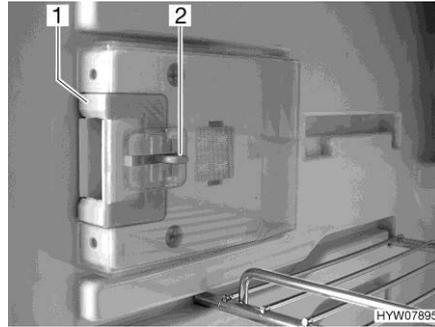
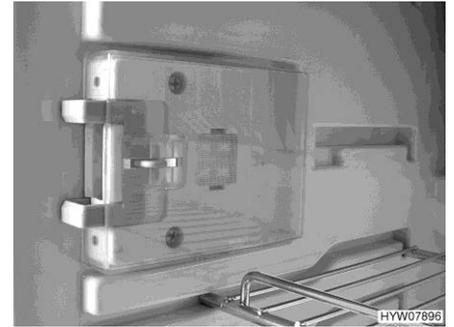

Fig. 260 Locking device (normal position)
Fig. 261 Locking device (ventilation position)
- Press down the unlocking device (Fig. 260,2).
- Push locking device (Fig. 260,1) forwards (Fig. 261).